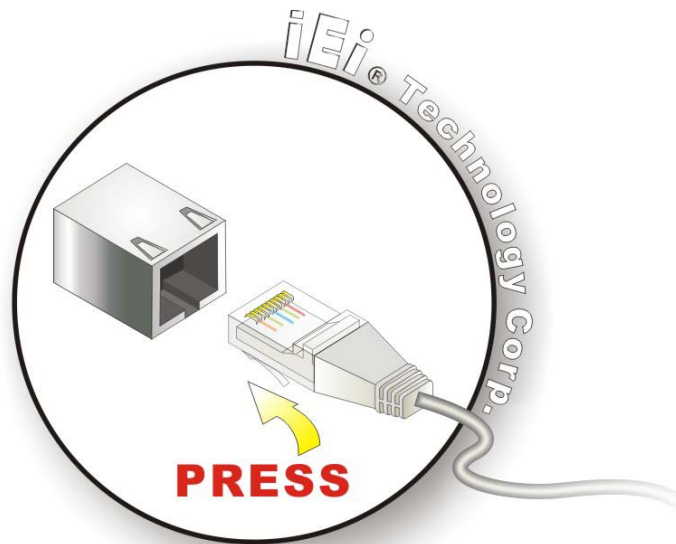

Figure 4-15: LAN Connection
Step 2: Align the connectors. Align the RJ-45 connector on the LAN cable with one of the RJ-45 connectors on the IMB-Q770. See **Figure 4-15**.